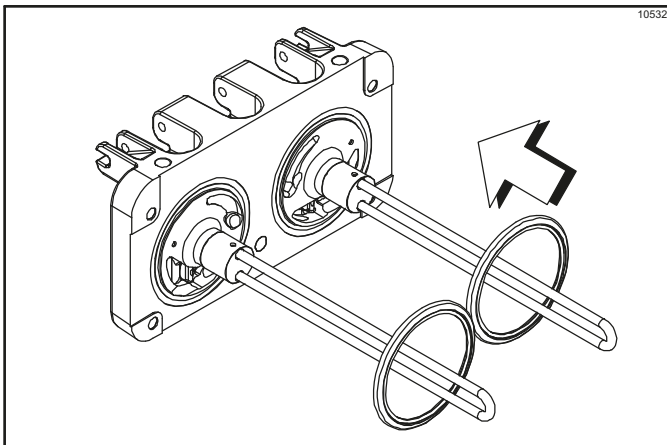

Figure 6-8
14. Place the door gaskets into the grooves on the back of the freezer door. (See Figure 6-8.)